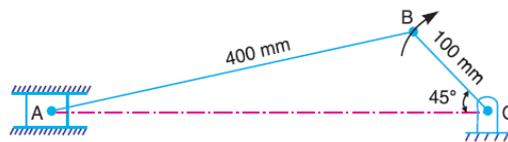

Fig. 6.12
7. Locate all the instantaneous centres of the slider crank mechanism as shown in Fig. 6.12. The lengths of crank  $OB$  and connecting rod  $AB$  are  $100$  mm and  $400$  mm respectively. If the crank rotates clockwise with an angular velocity of  $10$  rad/s, find: 1. Velocity of the slider  $A$ , and 2. Angular velocity of the connecting rod  $AB$ .